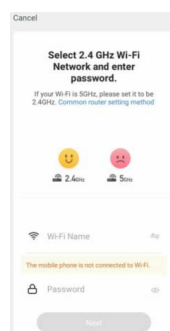

Fig.3
4. Input WiFi account and password. It is recommended to turn on Bluetooth in advance, as shown in Fig. 3;